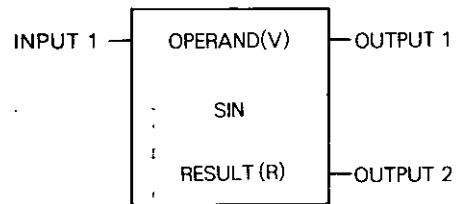

Fig. 5.49 SIN General Form
(2) Form
- Fig. 5.49 shows the form of sine (SIN).